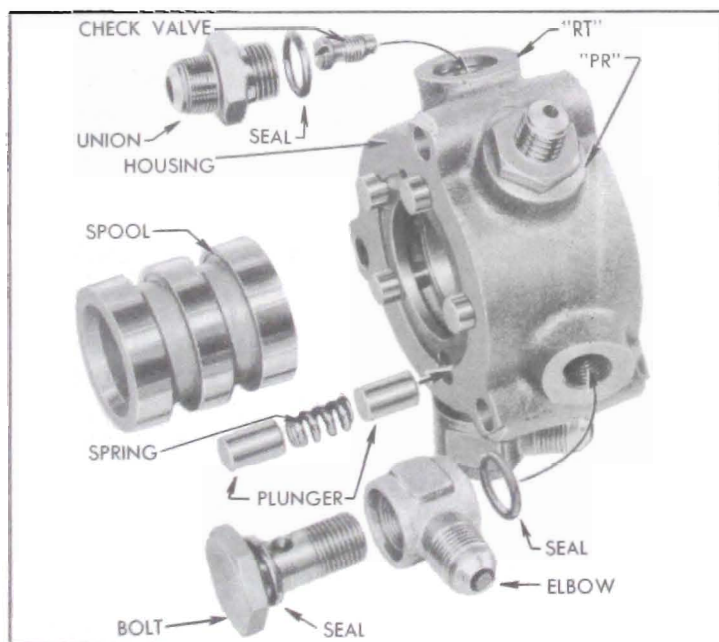

Figure 7-8—Hydraulic Valve Parts
13. Check the valve spool and centering plungers for possible sticking in valve housing, then carefully remove these parts and the centering springs. See figure 7-8. *Place spool and plungers where they will not be damaged by contact with other parts.*
14. Remove unions and elbows, then remove check valve from the return ("RT") port of valve housing. See figure 7-8.
16. Remove clamps and ball return guides from ball nut, turn nut over to remove all balls (60), then remove ball nut from steering shaft worm.
4. Install check valve in "RT" port of the hydraulic valve housing and tighten securely. See figure 7-8.